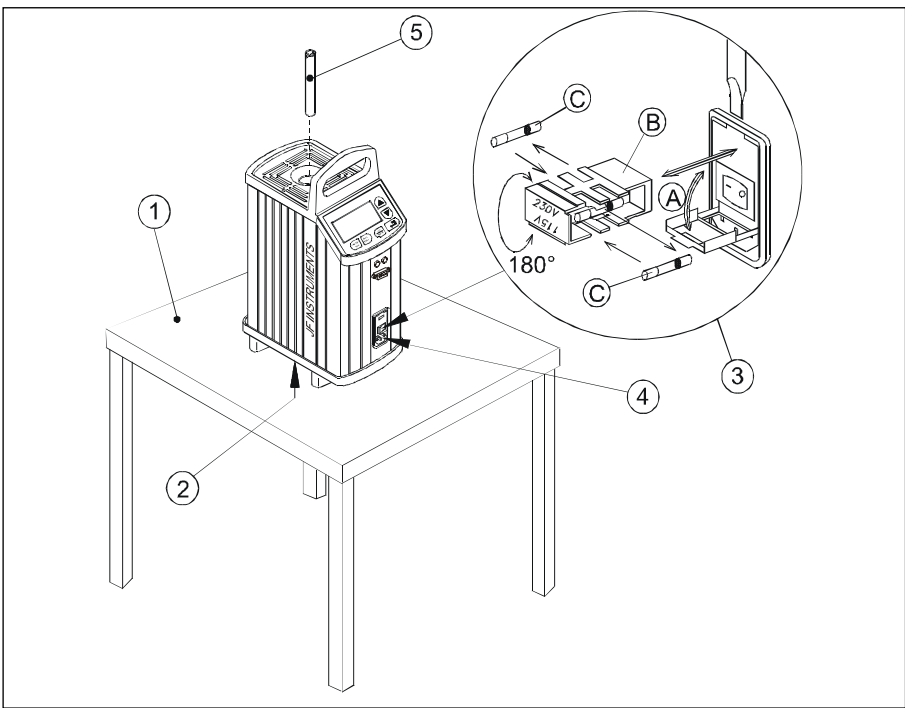

Fig. 1
- ② ensure a free supply of air to the fan located at the bottom of the instrument.
- ③ check the voltage of the power control switch (on/off switch (230V/115V)). If the voltage of the power control switch differs from the line voltage, you must adjust the voltage of the power control switch as follows (see Fig. 1):